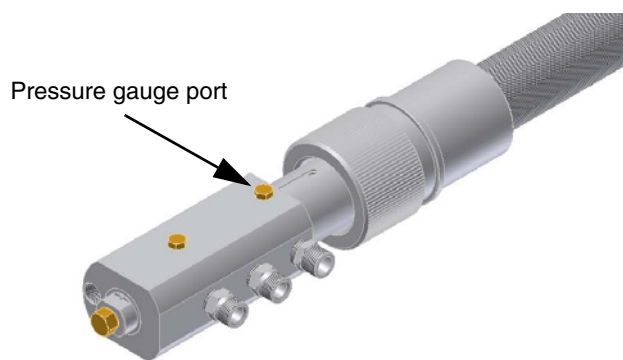

Fig. 17
- 7 The nozzle supply pressure is already factory-set and must not be changed. Only if necessary, adjust the supply pressure as follows (see related paragraph); insert a pressure gauge into the port showed on Fig. 17 and act on on the pump adjusting screw **VR** (see Fig. 16 and page 11) as to get the nozzle pressure at 25bar (Fluidics/Bergonzo nozzles - see diagram on page 22).